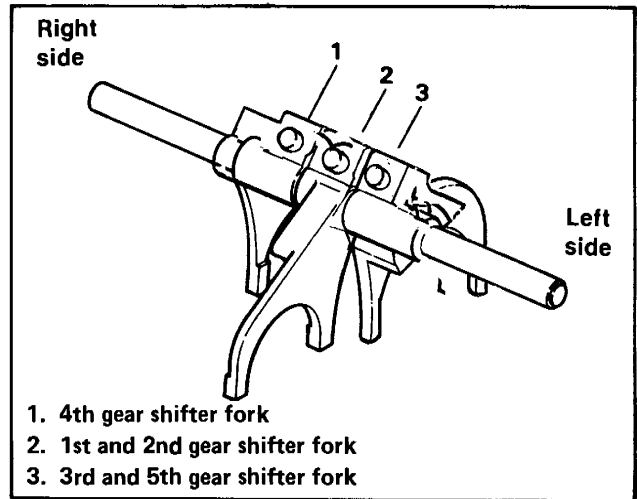

Figure 7-10. Shifter Fork Identification
1. See Figure 7-10. The forks differ from each other and are shown here.